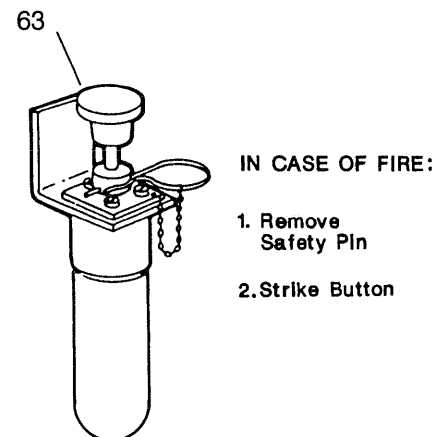

Fig. 3-17 Fire Suppression System Actuator
63. Fire Suppression System See Fig. 3-17